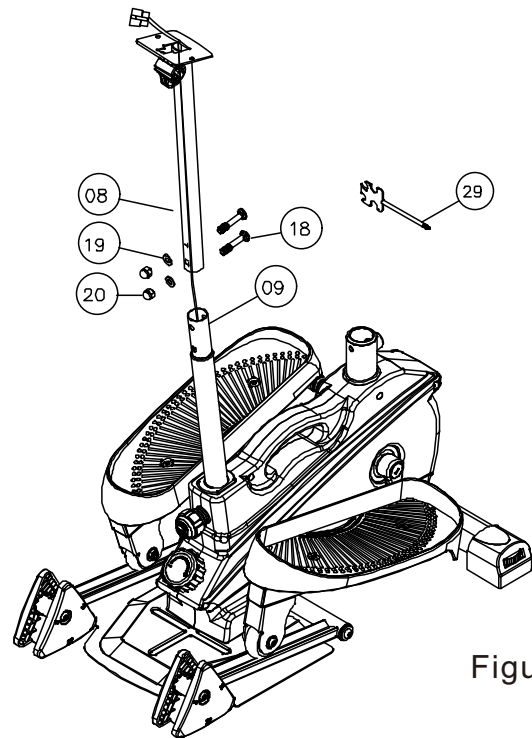

Figure 8
8. Use 2 No. 18 Cart screw, No. 19 Flat gasket, No. 20 High block shot, and fix the No. 08 The front riser assembly and the No. 09 Centralized management system together. As shown in Figure 8: